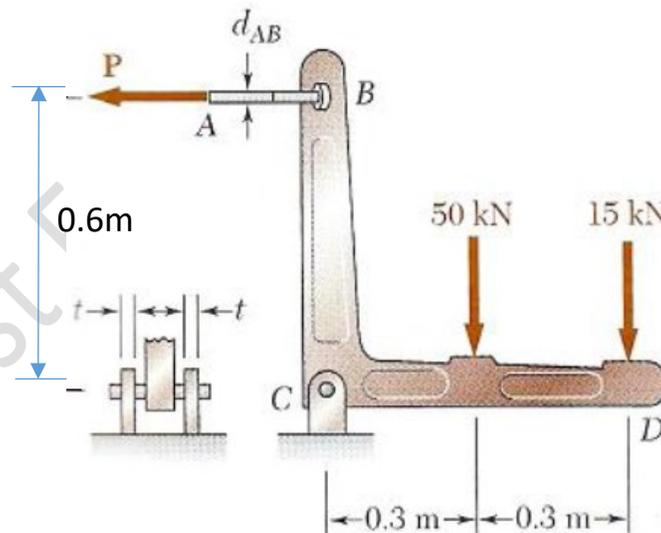

Fig. Q4
4. Two forces are applied to the bracket BCD as shown in **Fig. Q4**.